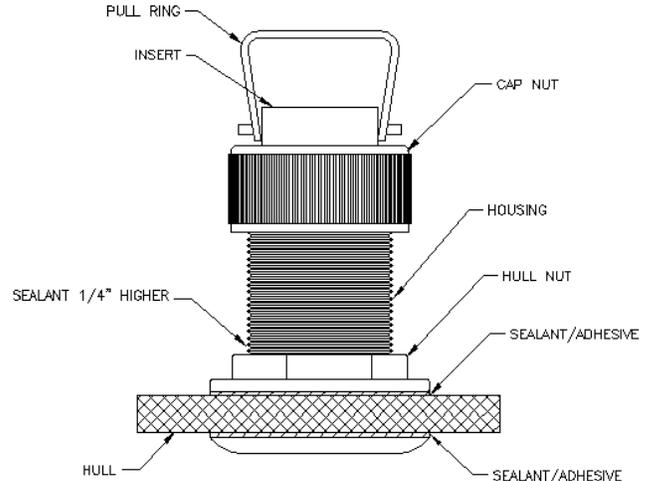

Figure 2. (Retractable model shown)
- From the inside, thread down the hull nut until it makes contact with either the hull or fairing block, if used. The hull nut should then be tightened to a snug fit using slip joint pliers. See Figure 2.